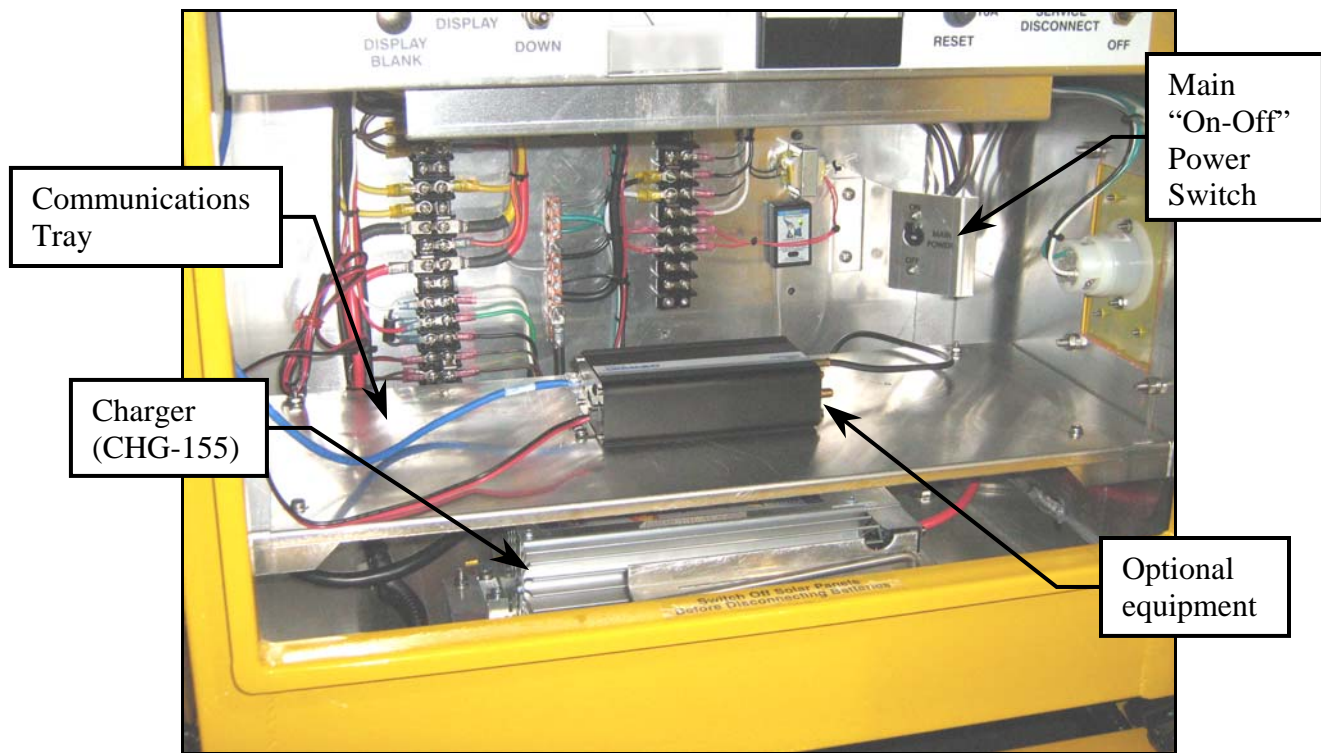

Figure 2-13 Inside Pedestal Assembly
- Turn sign display power OFF by accessing Main “On-OFF” power switch in Pedestal Assy. (See Fig. 2-13)